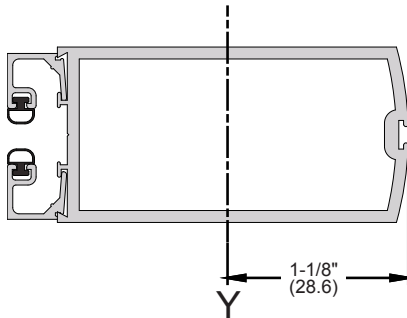

FIG. 1
2. Mark the stile centerlines 1-1/8" (28.6) from the inside edge. (Fig. 1)